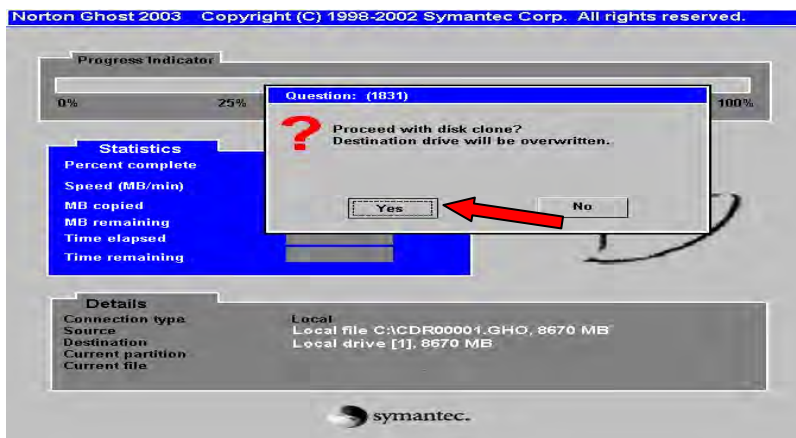

Figure 1-183. Proceed with Disk Clone
15. The “Norton Ghost” window is displayed and a “Question” confirmation window is displayed (Figure 1-183). Click **Yes** to start the disk cloning process.